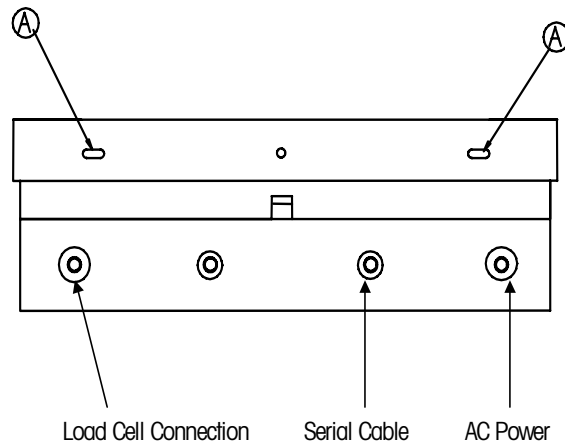

Figure 2-1
5. Squeeze the top of the front panel to the enclosure slightly and raise it to clear the two top clips. The cover will swing down, hinged by a wire cable at the bottom. Figure 2-1 shows the location of the slots (A).